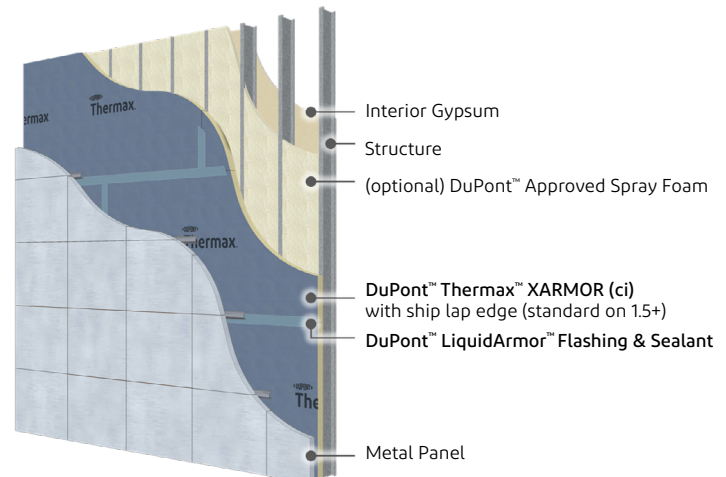

Figure 13: Metal Panel or MCM
- Metal Composite Metal (MCM) (Figure 13)
- Metal panel (Figure 13 shows option with Knight Wall System)